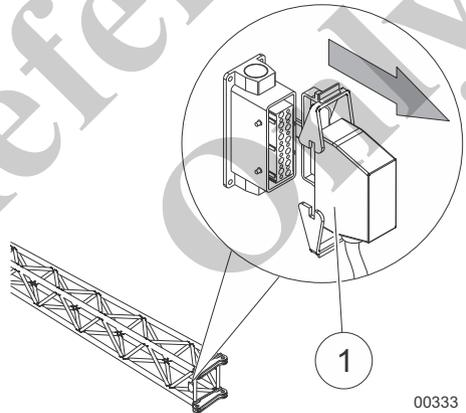

Fig. 172 Fly boom extension lifting limit switch cable
- 14 Remove the lifting limit switch cable of the fly boom extension (1) in Fig. 172 from the socket.